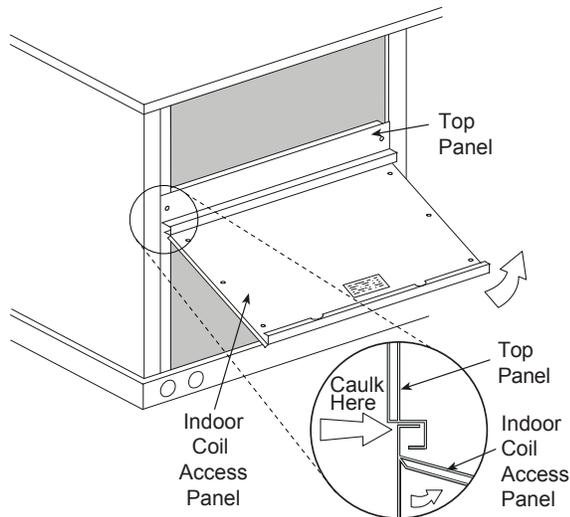

Fig. 15 – Indoor Coil Access Panel Relocation
1. The indoor coil access panel will be used as the top of the hood. Remove the screws along the sides and bottom of the indoor coil access panel. See Fig. 15.